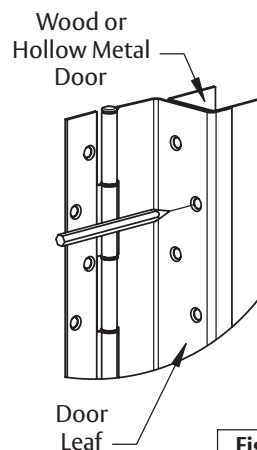

Fig. 3
- A. Place hinge door leaf on edge of door. Position top of hinge flush with top of door (Fig 3).